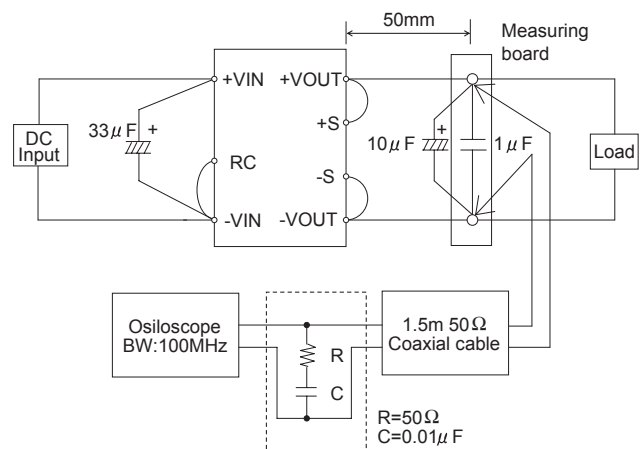

Fig.3.4 Measuring method of Ripple and Ripple Noise
■ Ripple and Ripple Noise are measured, as shown in the Fig.3.4.